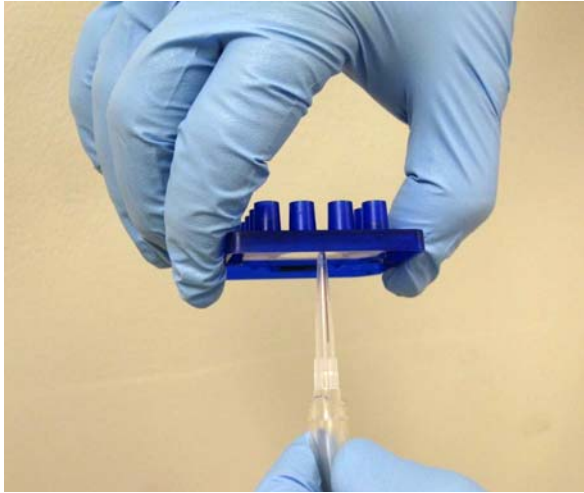

Figure 25. Removing an air bubble or clog by suctioning the sipper with a vacuum line.
- If air bubbles are not dislodged after a reprime, apply a vacuum to the sipper. Perform this by filling all active wells with 100 μ L of Chip Storage Buffer. Then suction the sipper with a vacuum line as shown in Figure 25 until droplets of fluid flow out from the sipper. When suctioning the sipper, be careful not to bend or break the sipper. To facilitate this, cut the end of the pipette tip attached to the vacuum line to widen the mouth.